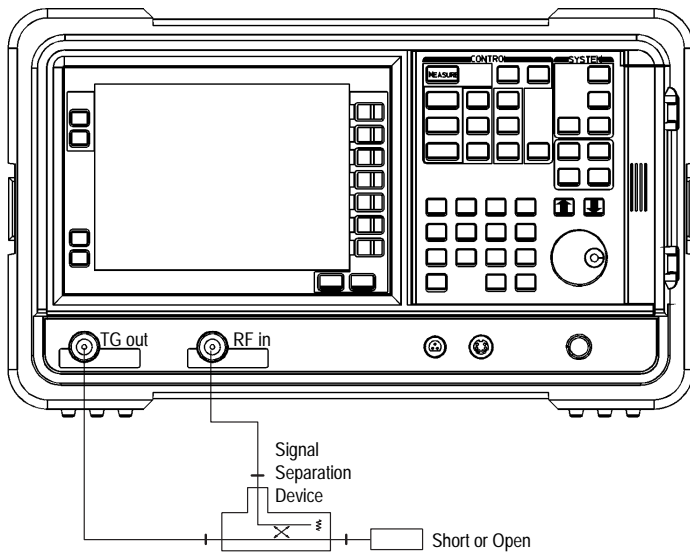

Figure 9: Calibrate the Analyzer
1. Remove device and connect a short in its place (see Figure 9).